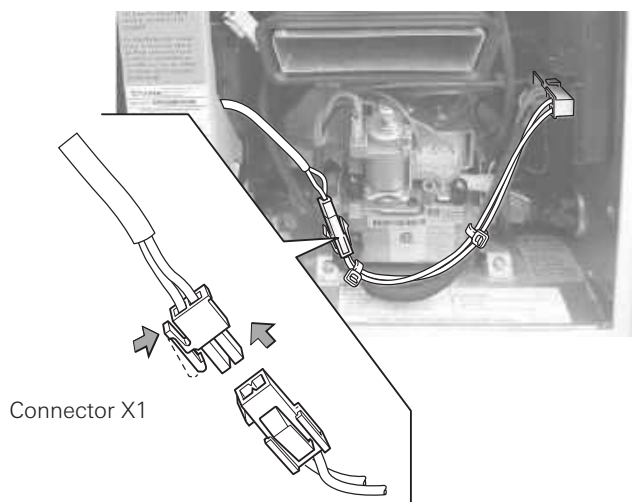

Fig. 10
6. Unplug the connector X1 (see Fig. 10).